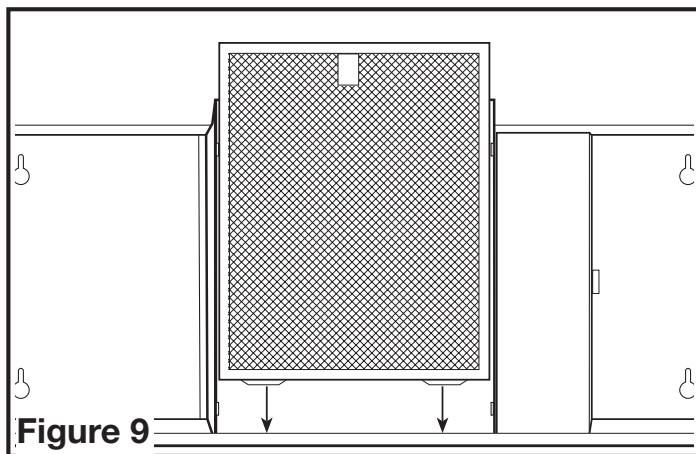

Figure 9
1. Install the filter by fitting the filter into the channel on the hood and sliding it back until it stops against the back of the hood (Figure 9).